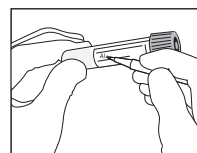

Fig. 4
- Write patient information on the tube label or apply patient identification label (Fig. 4).